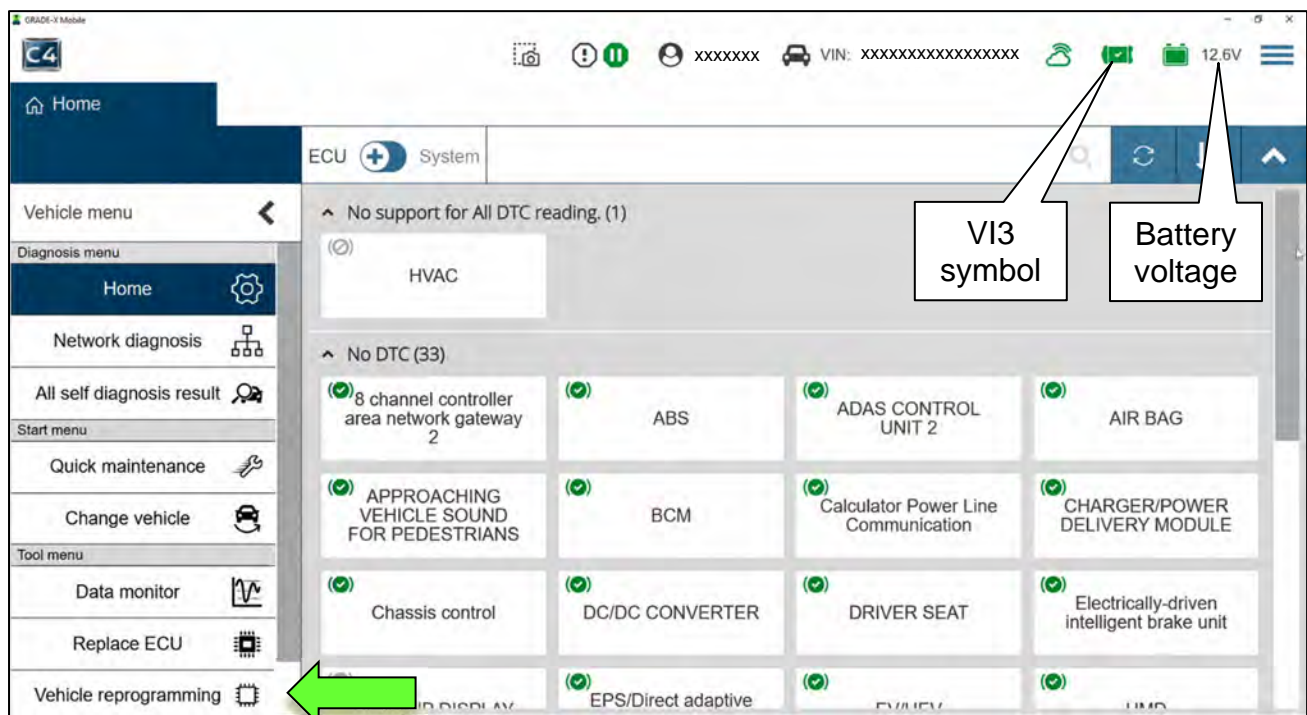

Figure 1
- This will temporarily disable the high voltage (HV) system.
- Green VI3 symbol with check mark in the middle (Figure 1).
13. Ensure that the vehicle's 12 volt battery voltage stays between 12-13.5V (Figure 1).